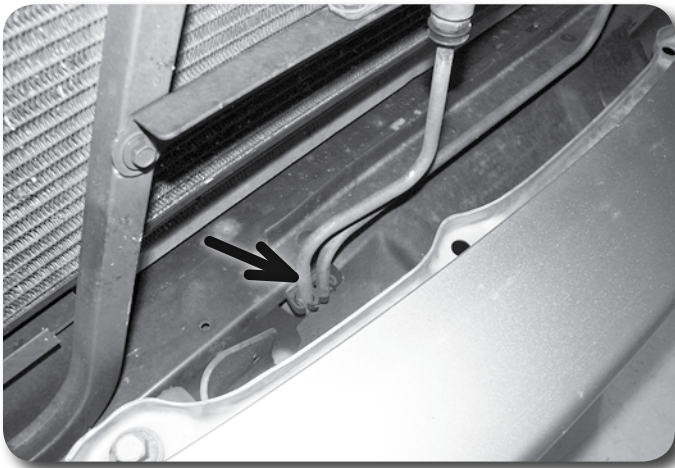

Figure 4
5. Remove the transmission cooler lines from the clips on the core support **Figure 4**.